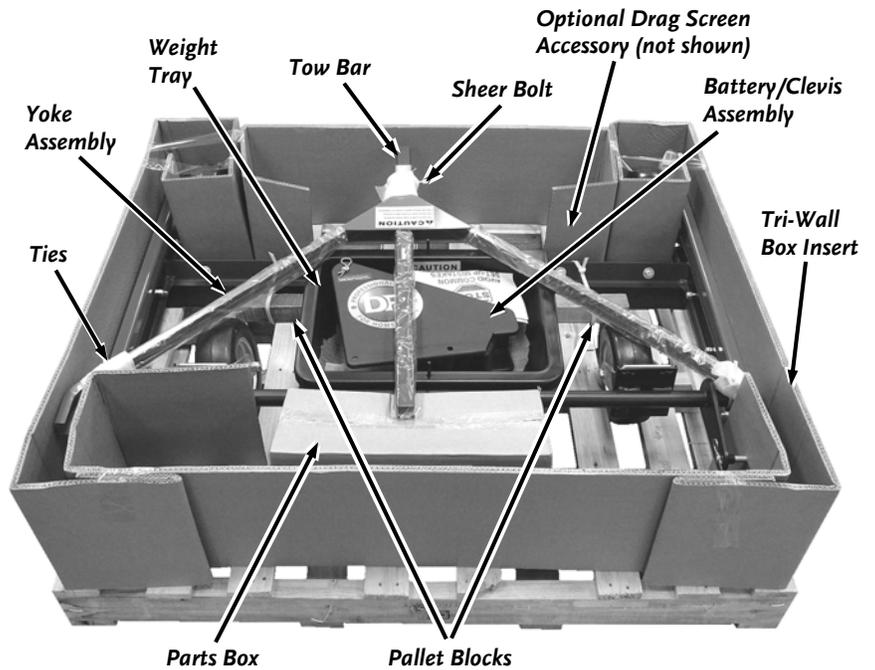

Figure 2
5. Cut the ties on the Yoke Assembly and remove the Yoke with the Tow Bar (**Figure 2**).